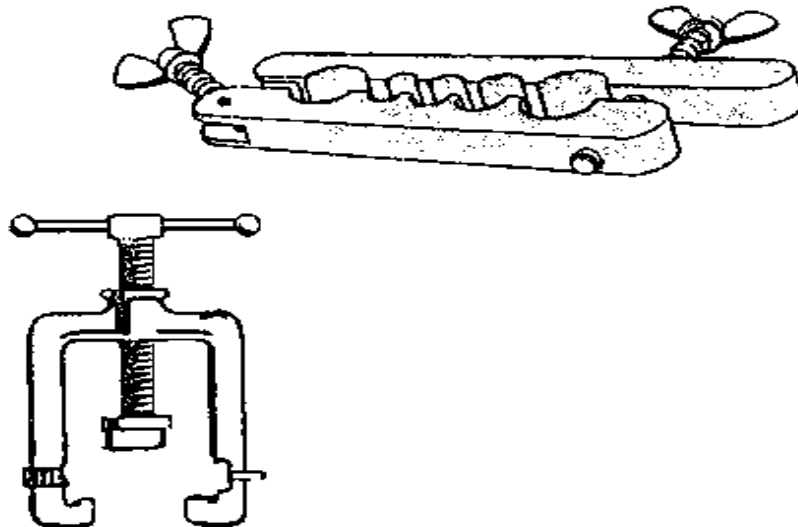

Figure 11, Universal Kit
- **Universal Kit.** The universal swaging kit consists of a conventional flaring block, swaging spreader and yoke (Figure 11). Swaging with the universal kit should be accomplished as follows: